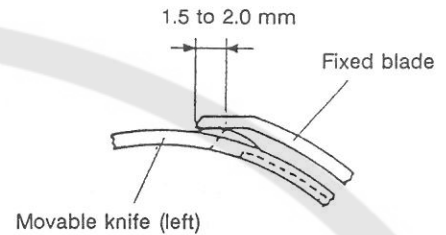

Fig. 13
- (2) Adjustment of knife engagement amount (Fig. 13)
① Set the solenoid to the operation state and rotate the sewing machine. Then, the movable knife (left) is rotated by the thread trimmer cam. When the movable knife (left) has moved to the maximum, the standard engagement amount is 1.5 to 2.0 mm. See Fig. 13.
② Make adjustment by the installation of knife driving crank.